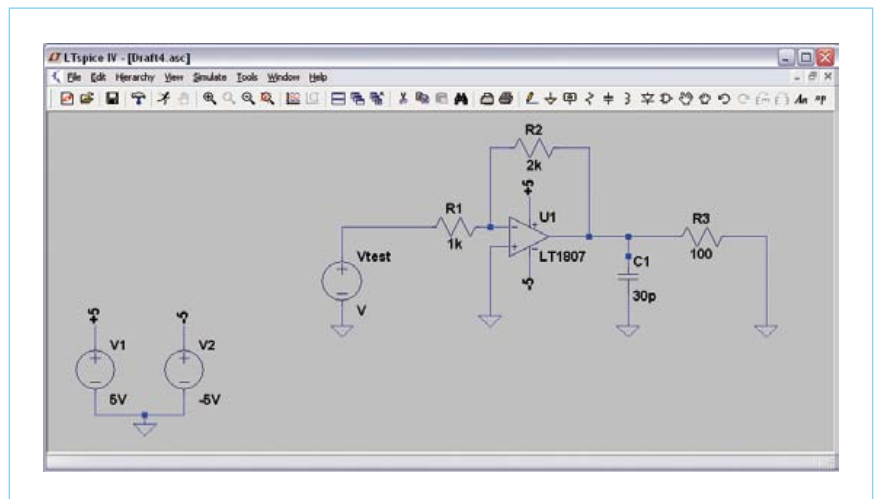

Figure 2. Our first schematic.
**Figure 2** shows the first circuit schematic that we drew. Now we would like to simulate it, but first there are two things that have to be configured: the voltage source ‘Vtest’ and the simulation parameters.